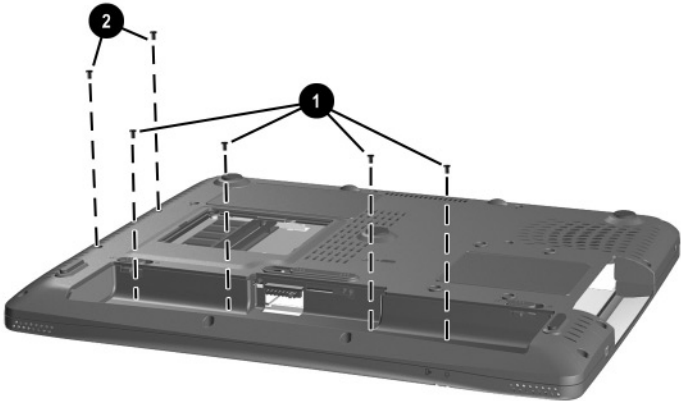

Figure 5-23. Removing the Top Cover Screws (Continued)
4. Remove the following PM2.5 × 4.0 screws (Figure 5-23):
- ❑ Four screws in the battery bay ①
- ❑ Two screws in the optical drive bay ②